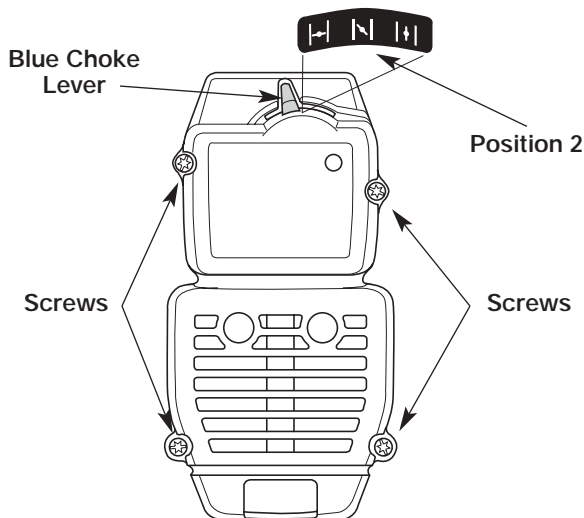

Fig. 21
2. Remove the four (4) screws securing the air filter/muffler cover (Fig. 21). Use a flat blade or T-20 Torx bit screwdriver.
2. Insert the four (4) screws into the holes in the air filter/muffler cover (Fig. 21) and tighten. **Do not over tighten.**